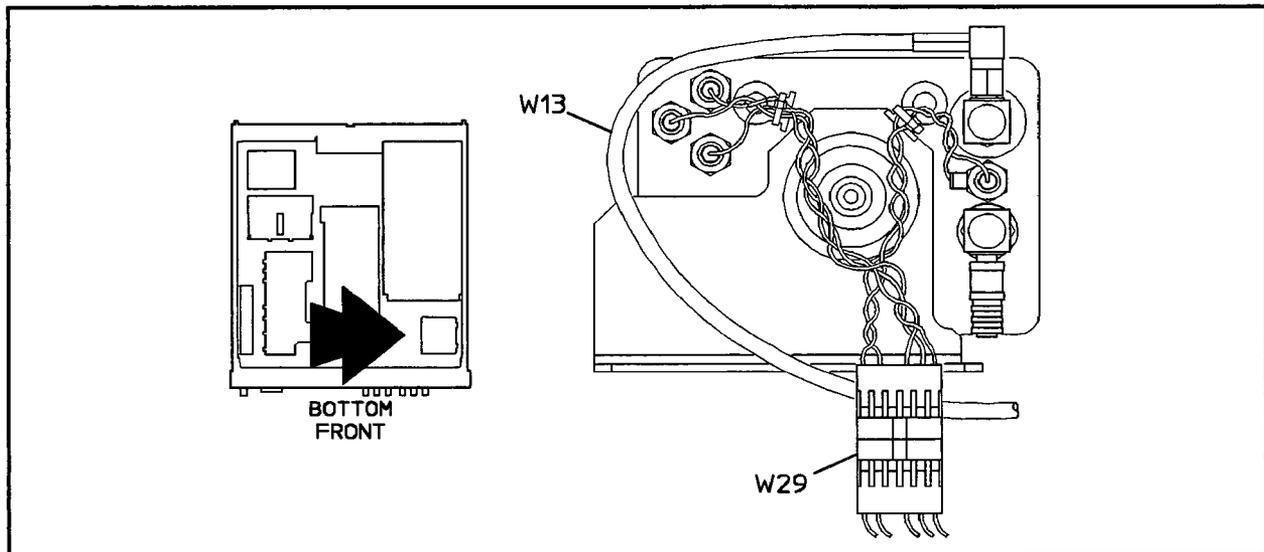

Figure 5-22. Crystal Oscillator Cables
3. In the "Special Techniques" section of this chapter, refer to "Flexible Coaxial Cables," "Multi-wire Cables," and Figure 5-22. Then, disconnect the following cables:
- a. W29 (rainbow DC "Osc" with black connector) from the crystal oscillator as shown in Figure 5-22.
- b. W13 (red 10 MHz with unthreaded SMB connector) from the oscillator as shown in Figure 5-22.